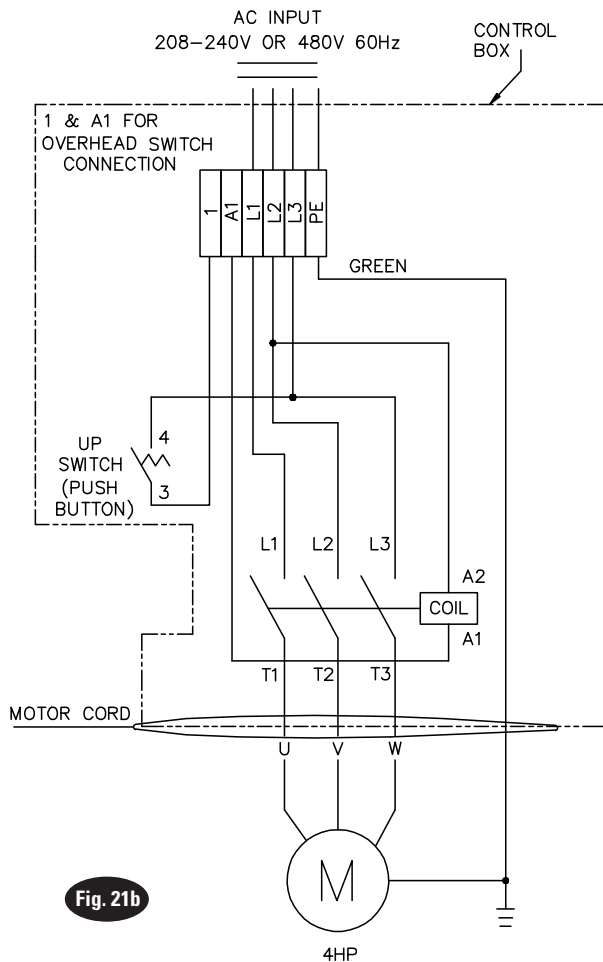

Fig. 21b
- 11. **Electrical:** Have a certified electrician run appropriate power supply to motor, Fig. 20, Fig. 21 & Fig. 21b. Size wire for 20 amp circuit. See Motor Operating Data Table.
Protect each circuit with time delay fuse or circuit breaker. For single phase 208-230V, use 20 amp fuse. Three phase 208-240V, use 15 amp fuse. For three phase 400V and above, use 10 amp fuse. For 3Ø wiring see Fig. 21 & Fig. 21b. All wiring must comply with NEC and all local electrical codes.